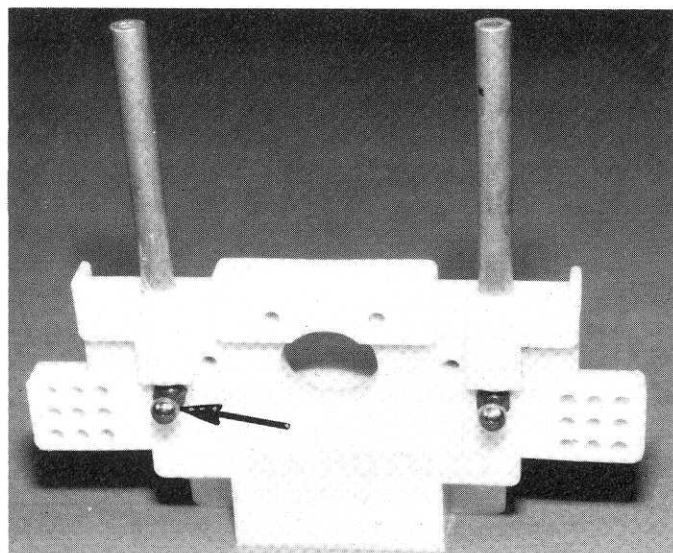

Fig. 72
□ **Fig. 72** Install two of the long ball ends in the bulkhead where shown.